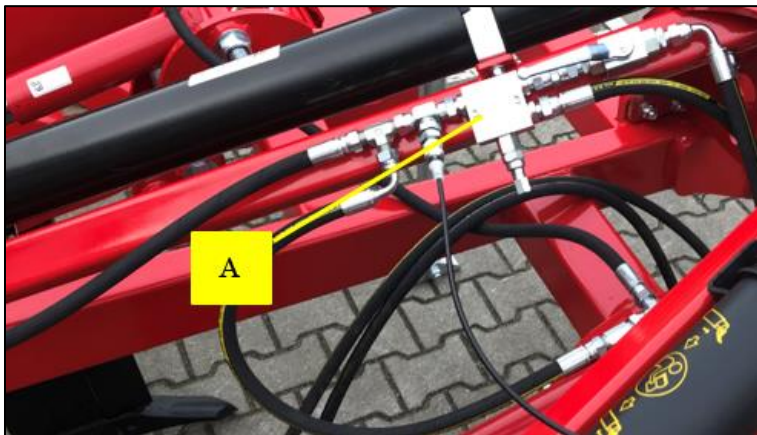

Figure 10 Pressure valve (A).
It is not allowed to readjust the pressure valve (A) on the machine, see Figure 10.